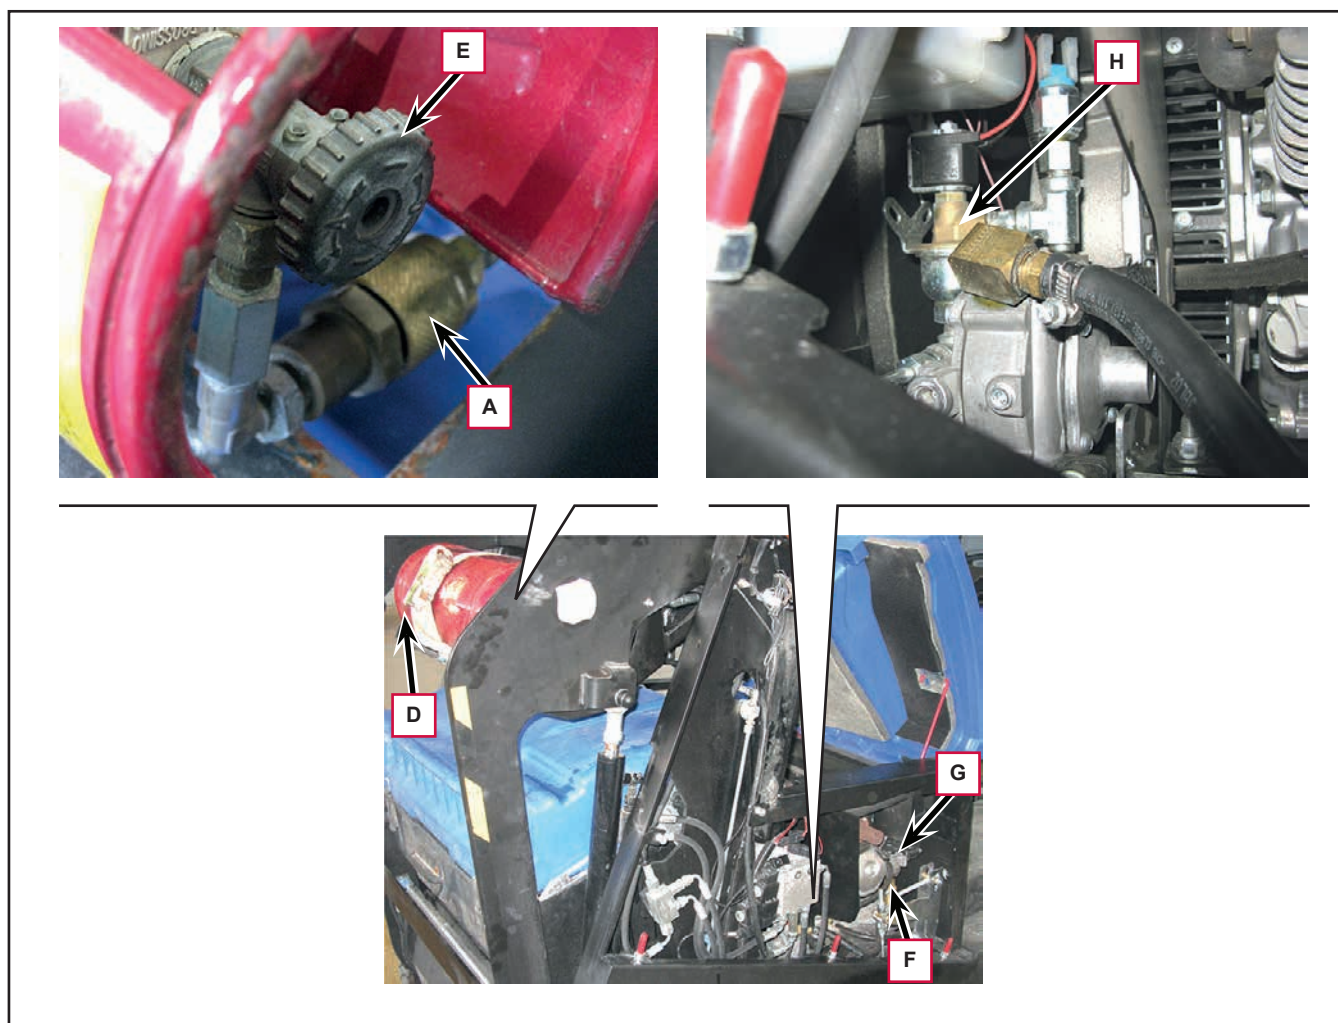

Figure 10
7. Apply evenly the spray product that detects gas leaks “SUPER BALL, OFF. PROD. C.C.I.A.A. 186231 (VI)” (or equivalent) on all the fittings of the LPG system, starting from the fitting (A, Figure 10) of the LPG tank (D) to the fitting (F) between the hose and carburettor (G). Proceed according to the instructions on the package of the spray product.
8. Open the LPG tank valve (E), then check for LPG gas leaks, shown by gas bubble development, on all LPG system fittings, starting from LPG tank fitting (A) to the fuel solenoid valve (H).
9. Turn the ignition key to the first position “I”, then check for LPG gas leaks, shown by gas bubble development, on all LPG system fittings, starting from the fuel solenoid valve (H) to the hose fitting (F).